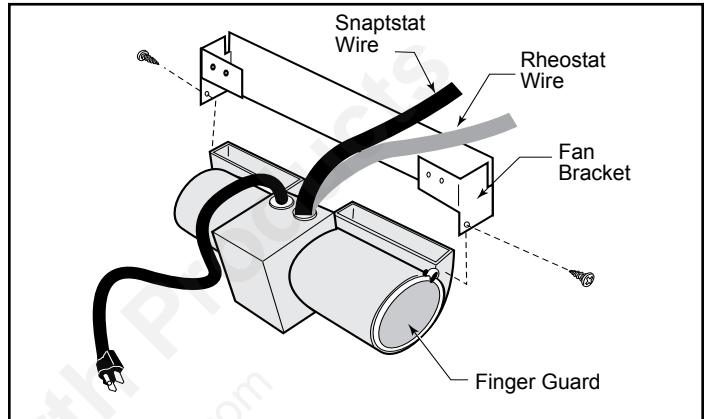

Figure 23 - Attach the fan assembly to the fan bracket.
- Attach the fan assembly to the fan bracket provided in the finish bag using the #10 sheet metal screws provided in fan kit. Do not remove finger guard screws. (Figure 23)